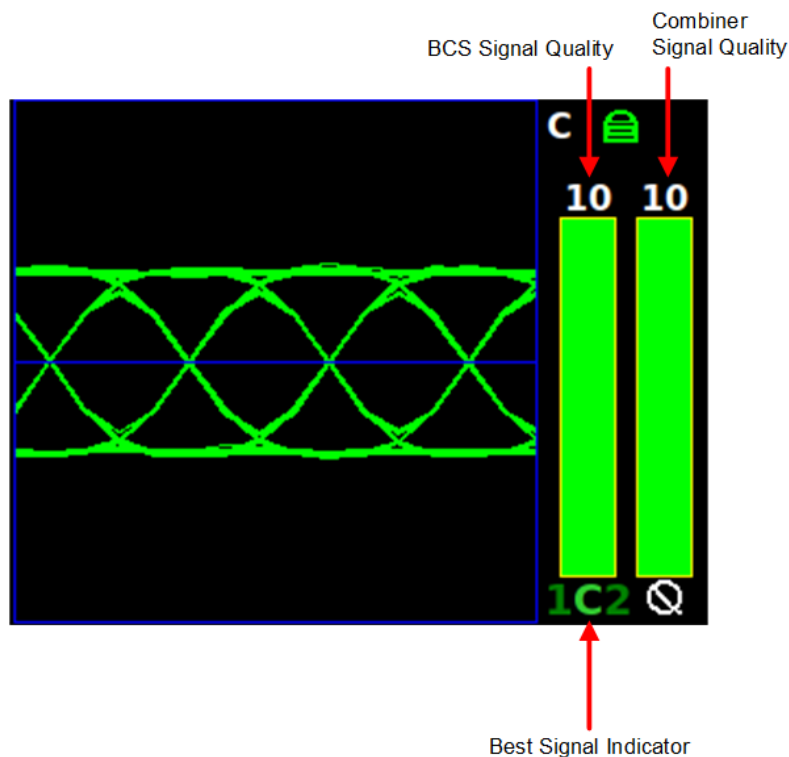

Figure 97: Best Channel Indicator Example
Best Channel Selector status is only displayed with the Combiner option enabled and set to On. This status displays in the right-hand side of the combiner signal indicator window, to the left of the combiner Signal Quality (Q) status, as shown in Figure 97.